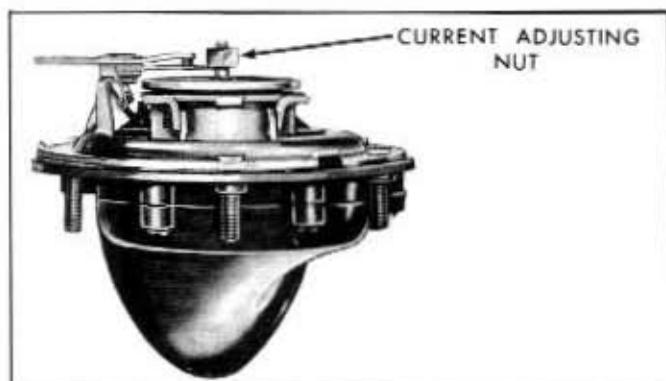

Fig. 10B-20—Horn Adjustment—(60C-7644)
- Remove the turn indicator lever, remove the turn indicator mechanism retaining screws (figure 10B-21), and lift the mechanism to one side.